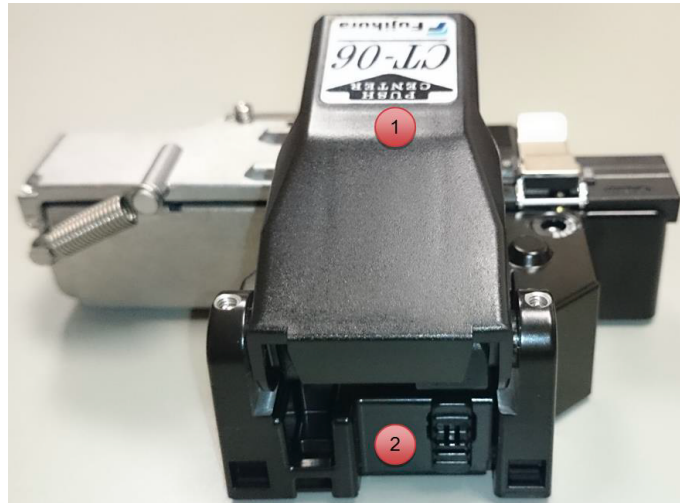

Figure 10. Steps of the fiber preparation.
5. To cut the fiber you will use the CT-06 fiber cutter, as it can be observed in Figure 10. The first step is to unlock the device. To do this, lightly press the top cover (1) while lowering the side button (2) to fully open the top cover. **DO NOT TOUCH THE BLADE AT ANY TIME.**